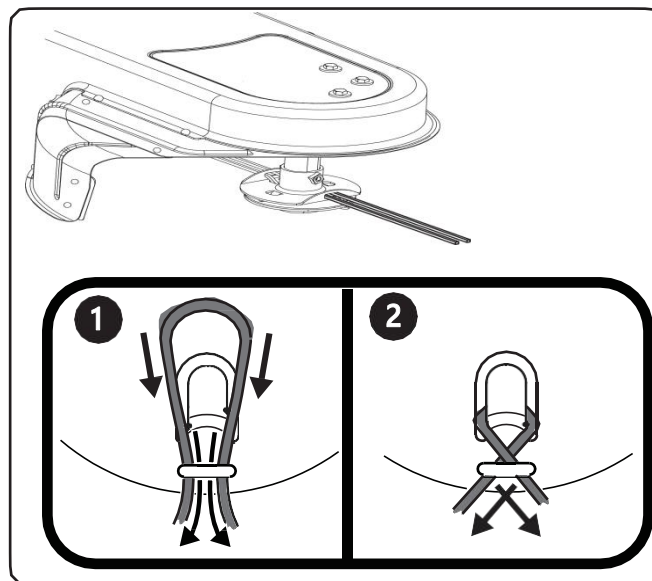

Figure 5-3
4. Cross the line ends and pull each tightly to secure the trimmer line in place. See Figure 5-3